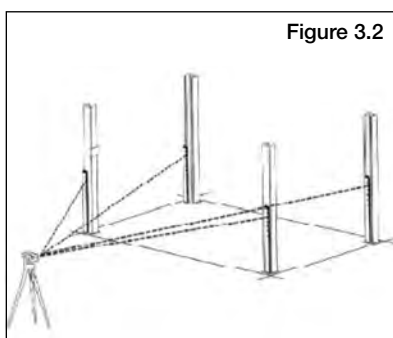

Figure 3.2
2. To estimate the shim requirements, place a target on floor at each column position and record the readings. Find the highest of the four locations then find the difference between each of the remaining columns. This difference is the estimated amount of shim thickness that will be required at each column. (See Fig.3.2)